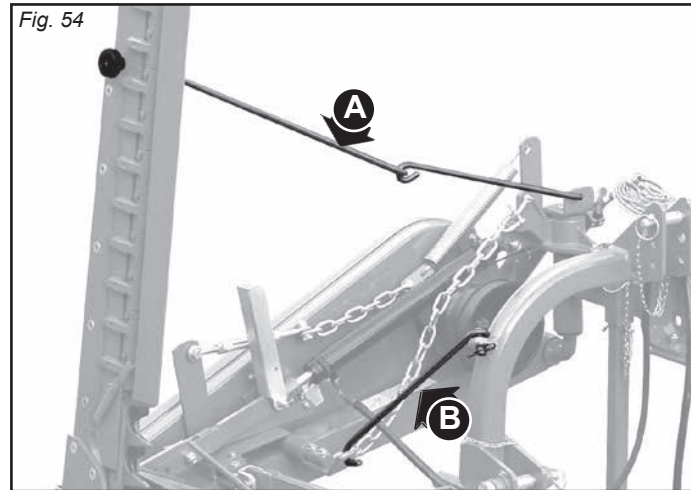

Fig. 54
- Secure it with the hooking tie rod (A, Fig. 54).
- Slide in the safety hook (B, Fig. 54).